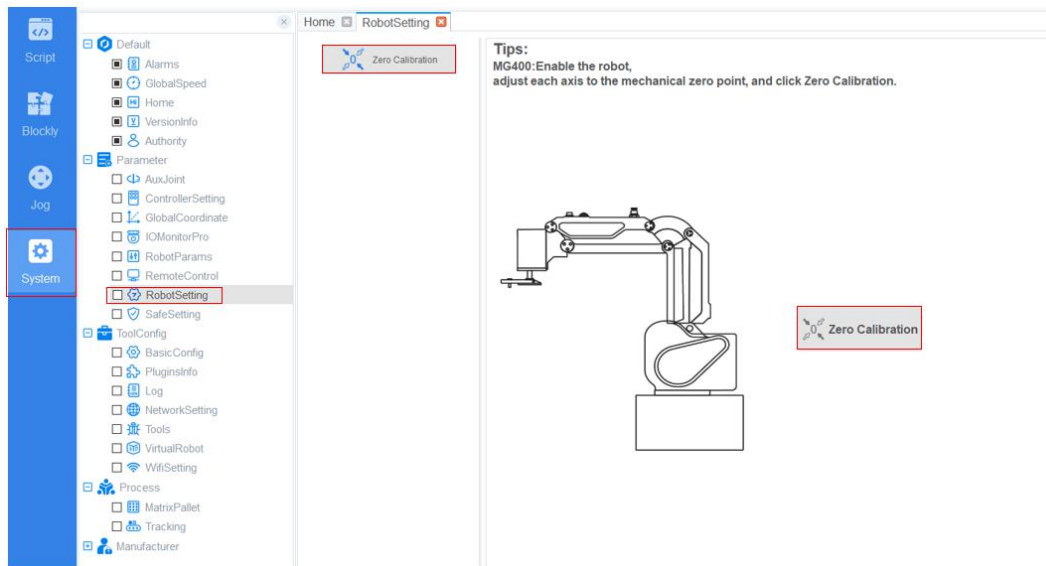

Figure 3.43 Zero Calibration
Step 1 Click  > **Parameter** > **RobotSetting** > **Zero Calibration** to enter Zero Calibration interface, as shown in Figure 3.43.